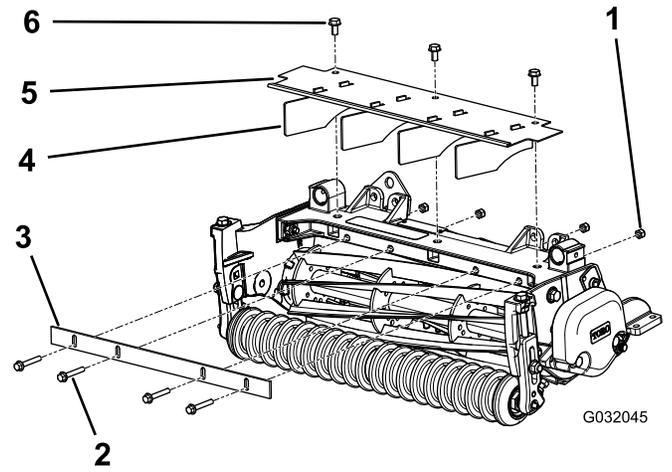

Figure 6
- Loosely mount the cutoff bar to the frame of the cutting unit with 4 bolts (1/4 x 1-3/4 inches) and 4 locknuts (1/4 inch); refer to Figure 6.
- Tighten the bolts and locknuts (Figure 6).
- Remove the 3 flange-head bolts securing the grass shield to the frame of the cutting unit (Figure 6).